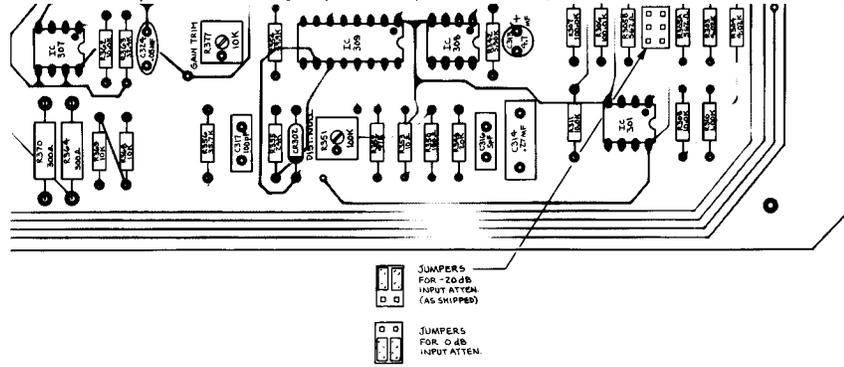

Fig. 3-3: INPUT ATTENUATOR JUMPER
2) **Input Attenuator Pads:** OPTIMOD-TV is shipped with 20dB pads ahead of the input buffer amplifiers. These are located on Card #3 (left channel) and Card #4 (right channel), and are suited for nominal input levels from -10 to +10dBm. If lower input levels (from -30 to -10dBm) are present, the pads must be defeated. To do this, remove Cards #3 and #4. Reposition the jumper straps according to Fig. 3-3.
Jumper Cards #3TX and #4TX are shipped with 20dB pads ahead of the input amplifiers. If the readings in the COMPRESSOR OUT position of the Main Chassis meter are too low with the INPUT ATTEN fully CW and the input pads are strapped for 20dB attenuation, restrap them for 0dB attenuation. This is done by removing Cards #3TX and #4TX from the chassis according to the instructions on p. C-1 of **Appendix C**, and by moving the jumpers according to Fig. 3-3. The cards and subpanel are then replaced.